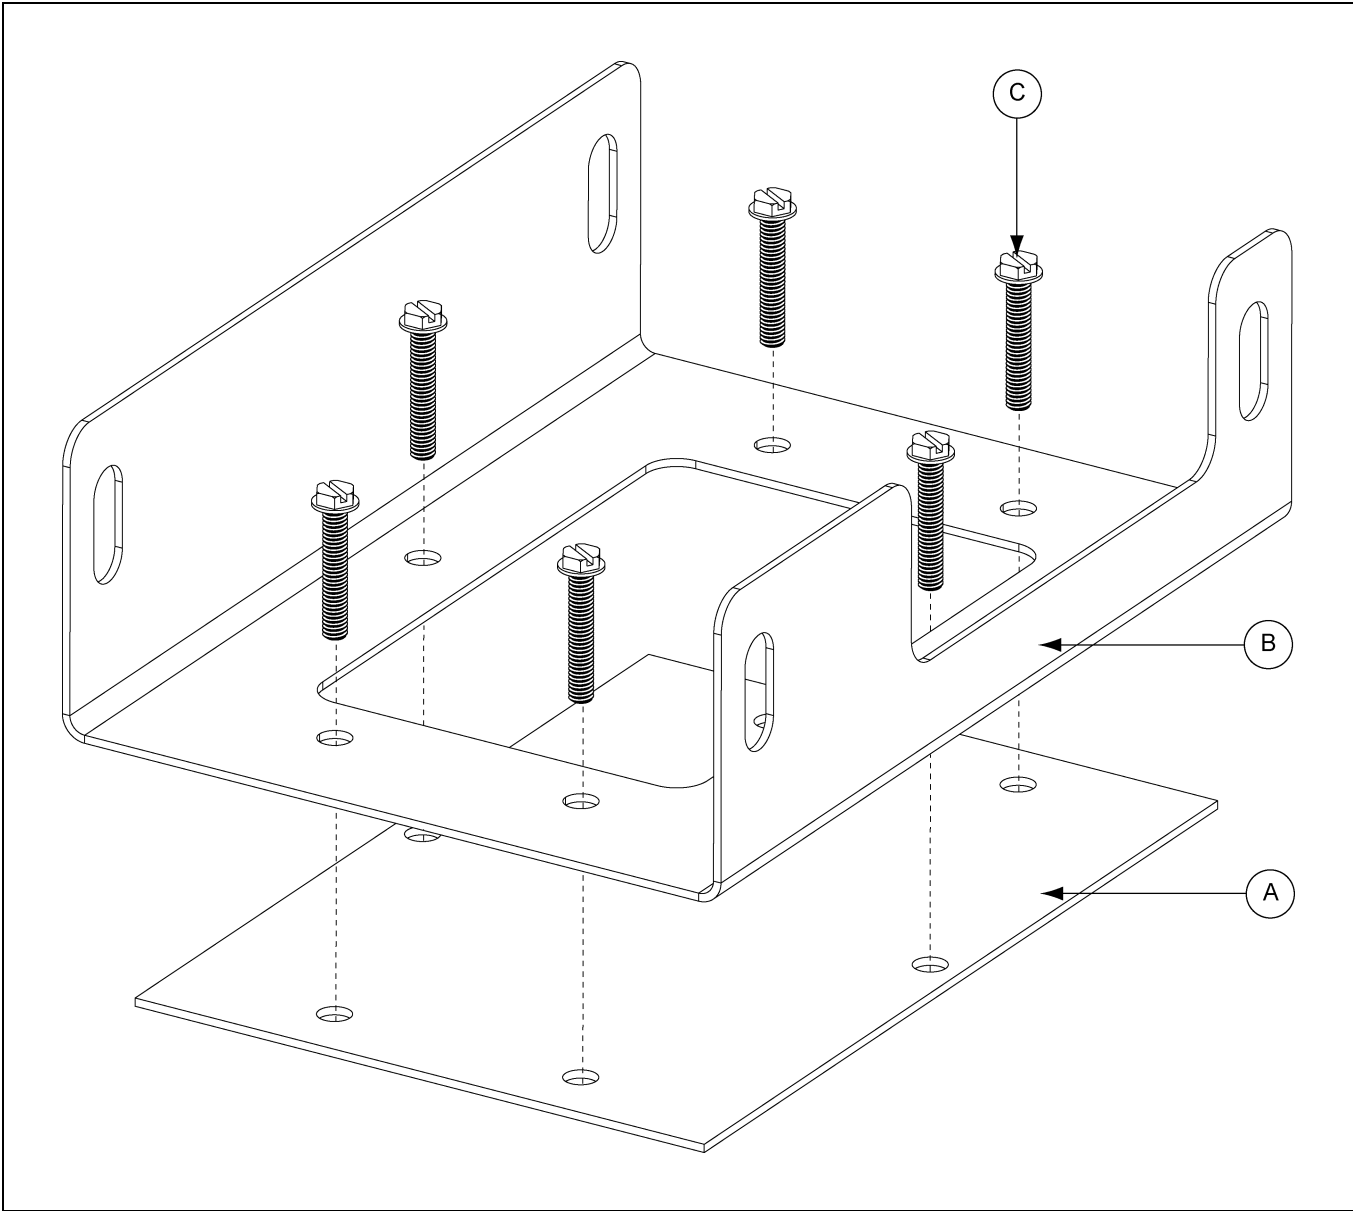

Figure 3A
3. Replace the diaphragm (A) with the new one supplied in the kit and anchor it in place using the bracket (B) and screws (C). (See Figure 3A.)